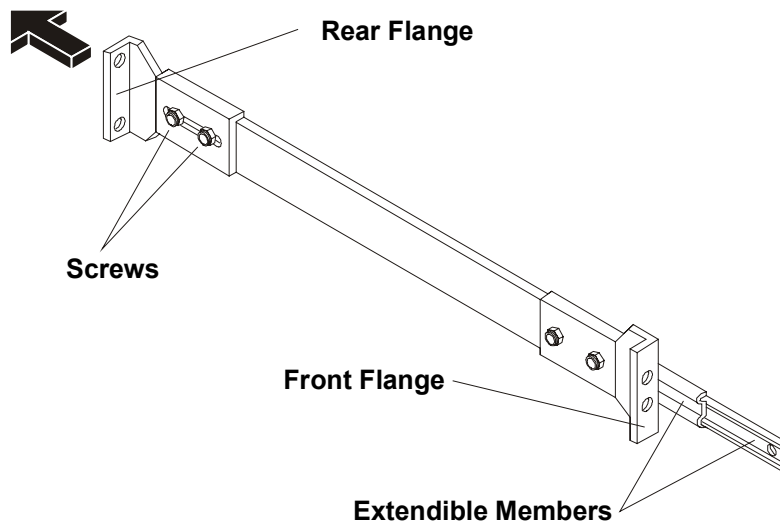

Figure 3-3. Adjusting the Rear Flange on the Slide
Prepare both slides for mounting, as shown in Figure 3-3:
1. Orient each slide so that the front of the slide attaches to the front column and the rear attaches to the rear column. This ensures that, once installed, the slides will extend correctly toward the front of the rack. See Figure 3-3. Use either slide in either location; they are identical.
5. Extend the slides until you hear a click, indicating they are fully extended in the locked-out position. Note that the slides do not come apart (see Figure 3-3).